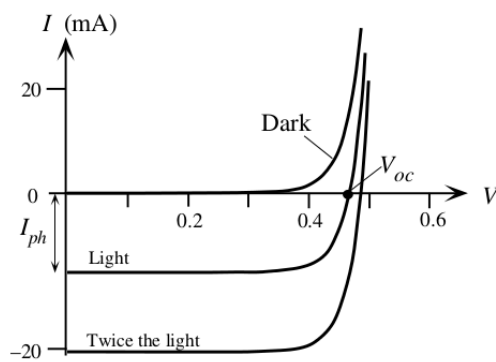

Figure 1
- From the figure 1 below, it can be seen that Short circuit current and open circuit voltage both increase with increasing illumination.